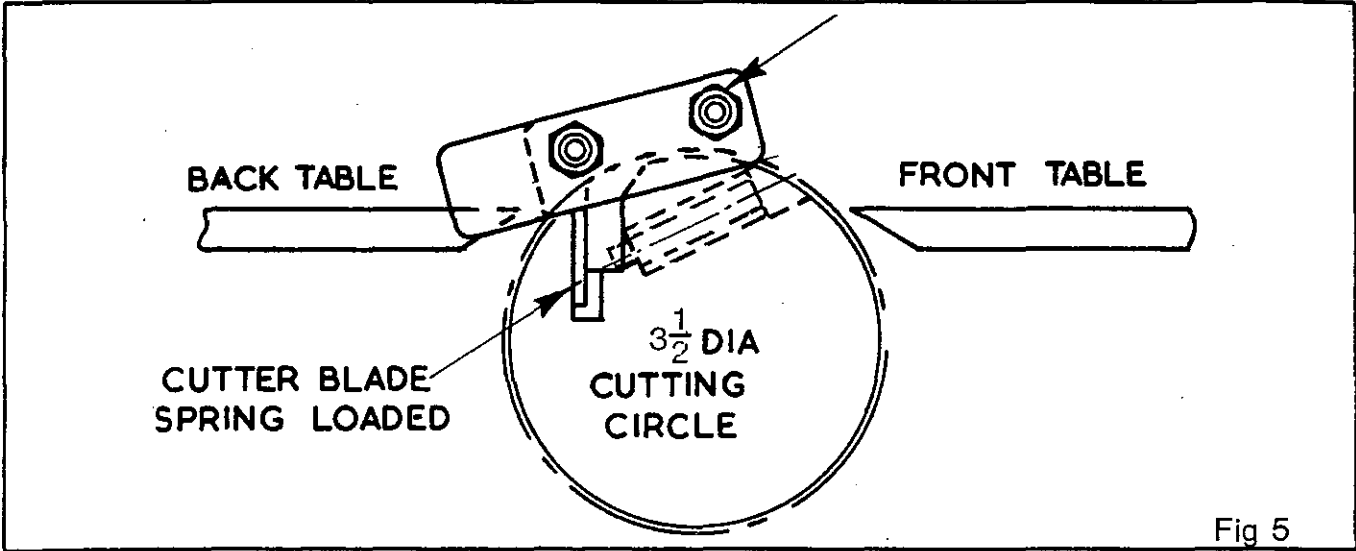

Fig 5
2. Turn the cutterblock to approximately the position shown in Fig. 5 and slacken the securing screws until the knife is just free of the cutterblock. Care should be taken when loosening the last screw as the knives are spring loaded. The knives can now be removed for grinding or replacing. When grinding it is most important that knives are ground dead straight and balanced in pairs or sets.
3. To re-set the knives, the cutterblock should be in approximately the position shown in Fig. 5 Place the knife in the slot making sure that all faces are clean and the clamping bar free from burrs. Press the knife into the cutterblock with the setting device in Fig. 5 until the four predominant pads rest on the outer surface of the cutterblock and the end stop plate is pressed against the rebate side of the back planing table. Position the knife so that its end butts against the stop plate so as to line up the tip of the knife with the edge of the back table.